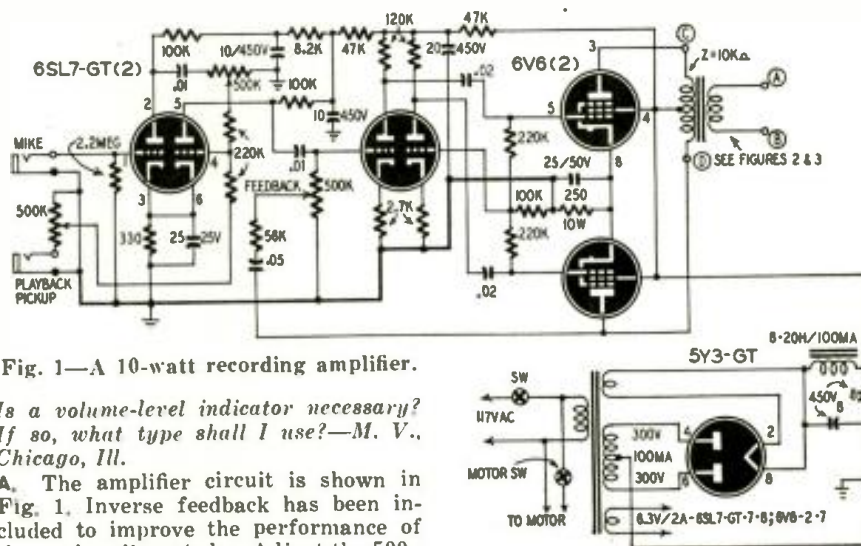

Fig. 1—A 10-watt recording amplifier.
A. The amplifier circuit is shown in Fig. 1. Inverse feedback has been included to improve the performance of the push-pull pentodes. Adjust the 500,000-ohm feedback control to the point which gives the minimum acceptable output level when the microphone and phono volume controls are at maximum.